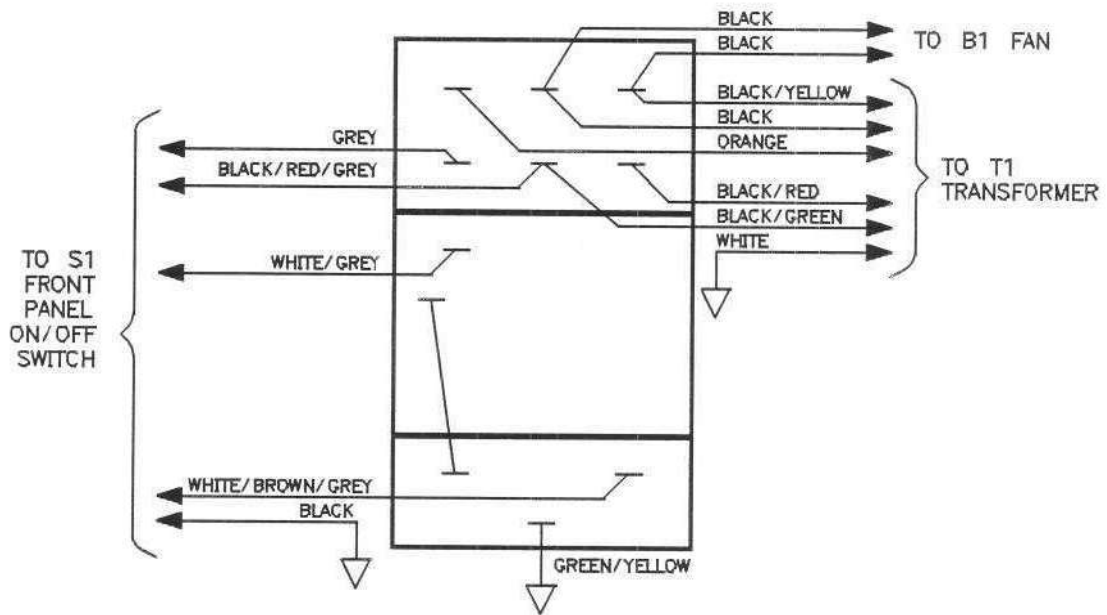

Figure 6-3. Wire Connections to Line Module FL1
9. When you replace the transformer, refer to Figure 6-3 for the location of the wires connected to the line module.